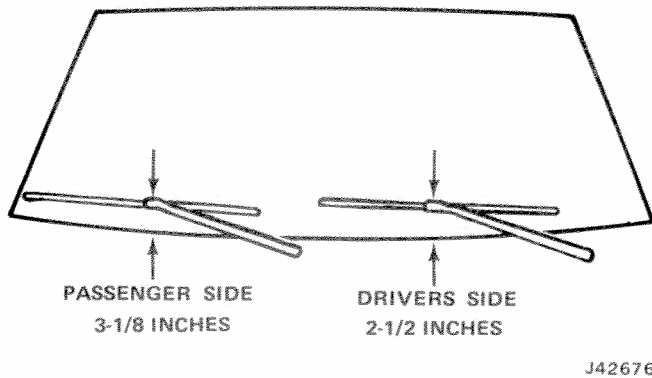

Fig. 17-11 Wiper Arm Park Position - CJ Models
(2) Push wiper arm over pivot shaft. Be sure pivot shaft is in park position and wiper arm is positioned as shown in figure 17-11.